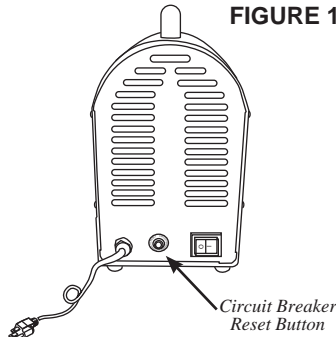

FIGURE 13
2. Press the **Circuit Breaker Reset Button** (Figure 13).